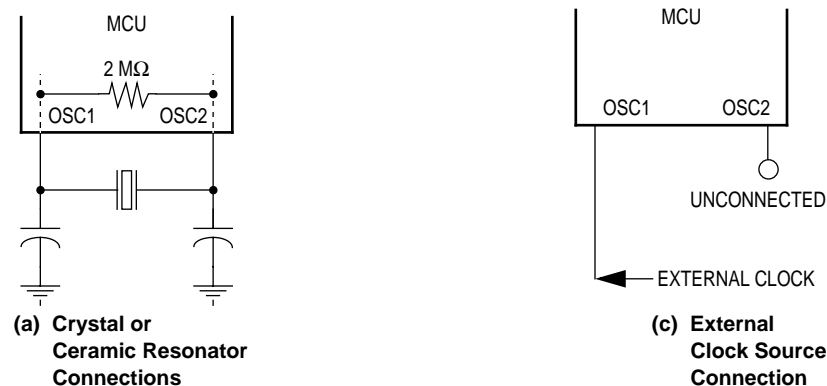

Figure 1-4. Oscillator Connections
1. A crystal or ceramic resonator as shown in Figure 1-4(a).
2. An external clock signal as shown in Figure 1-4(b).